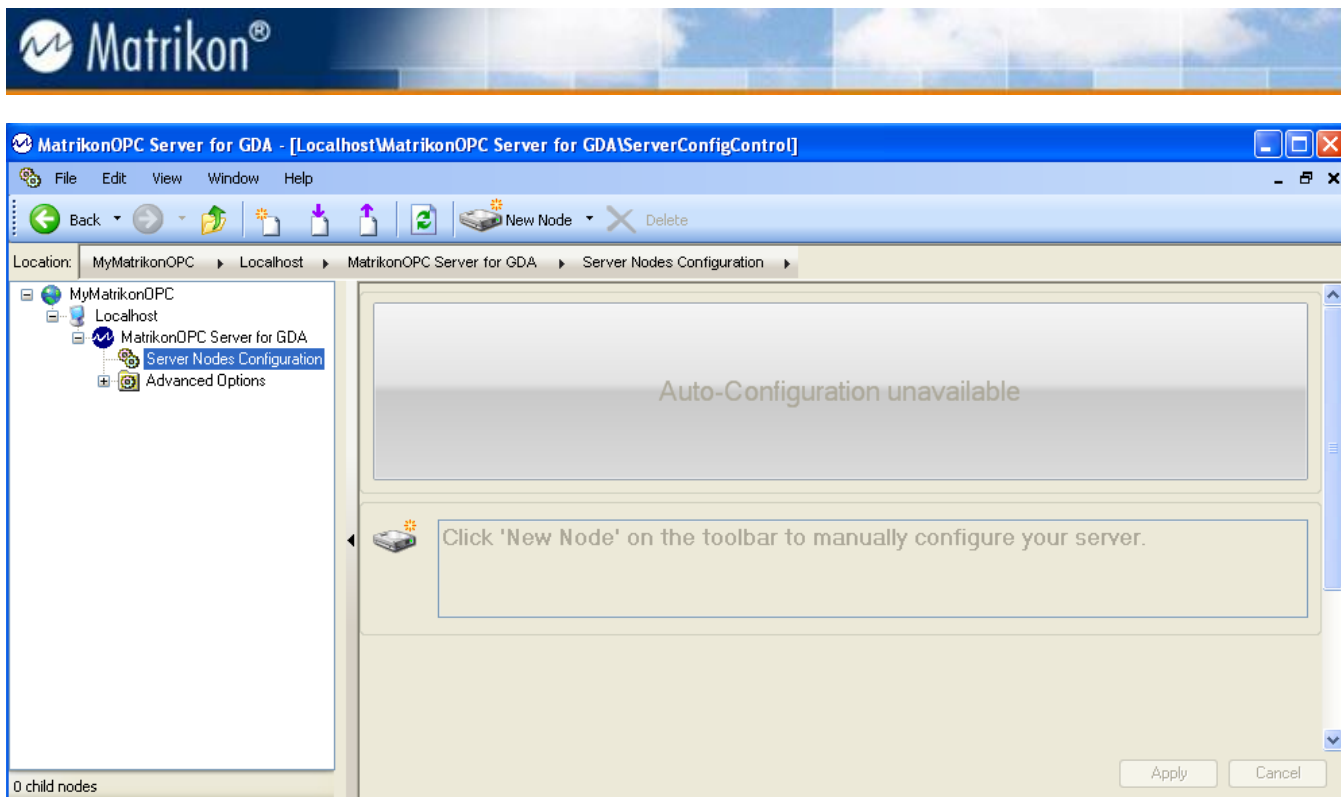

Figure 99 - GDA Server Configuration Screen
2. The server's **Configuration** window (Figure 99) is displayed.